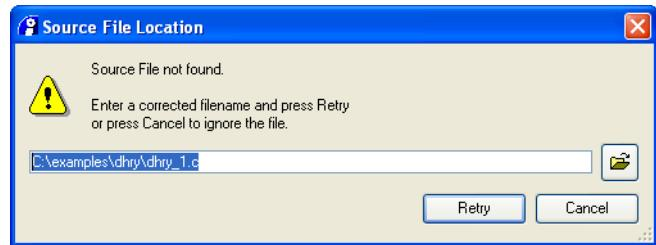

Figure 4-18 Source File Location dialog box
1. At the Source File Location dialog box, shown in Figure 4-18, either: